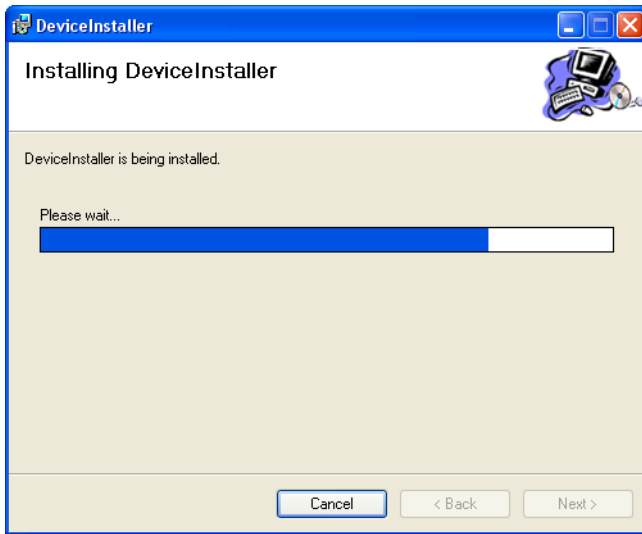

Figure 16: Installation Progress Window
9. To begin the DeviceInstaller installation, click on the button. An installation progress window appears (see Figure 16).